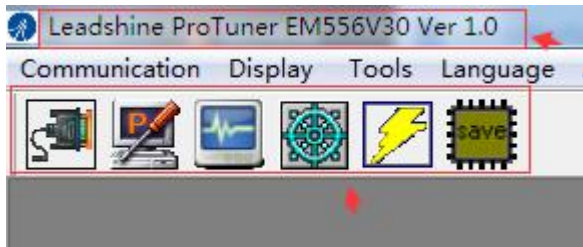
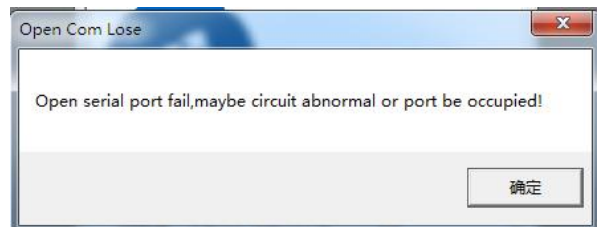

Figure 6: Connected successfully
Figure 7: Connection error message
- Step 2 to click “Connect” button and wait a few seconds. If the drive has been successfully connected, the icon will change into color and show the stepper drive model automatically as shown in Figure 6. If the selected COM port is wrong, the following error message will be displayed (Figure 7) .